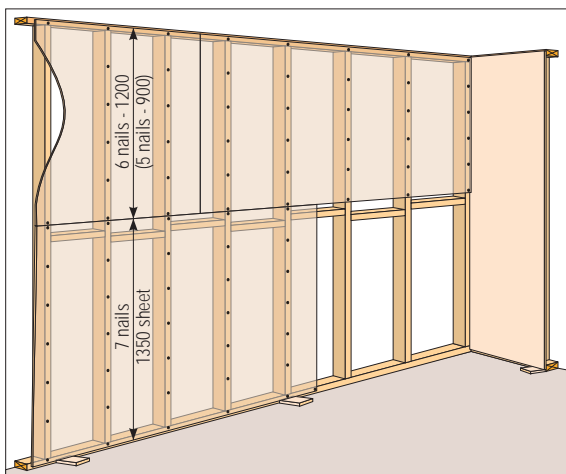

Figure 33 Nail fixing to walls (single nails)
- Use Table 9 and Figure 33 for wall fastener spacings.